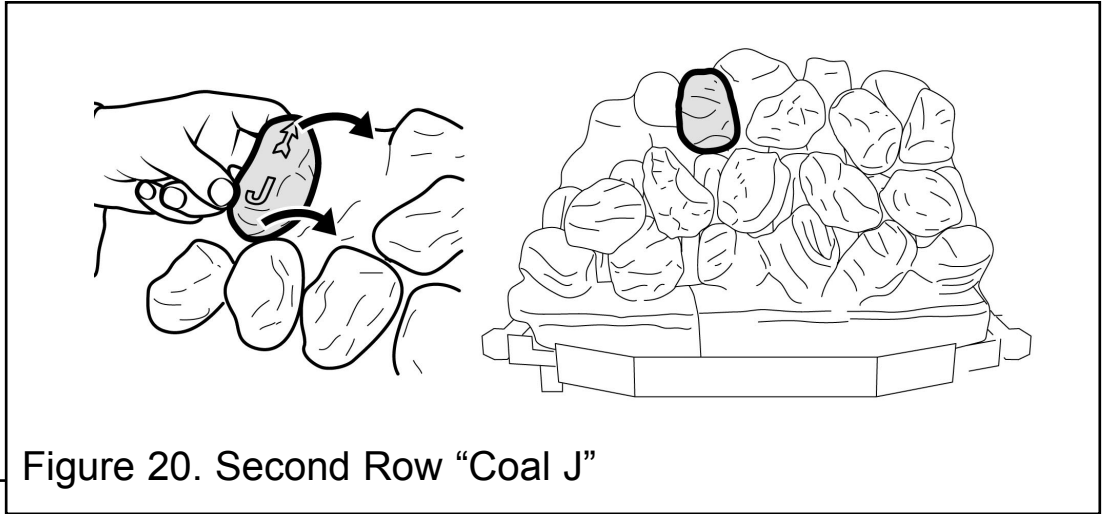

Figure 20. Second Row "Coal J"
18. Hold coal 'J' upright with the arrow pointing to the top. Locate coal 'J' as shown in figure 20.